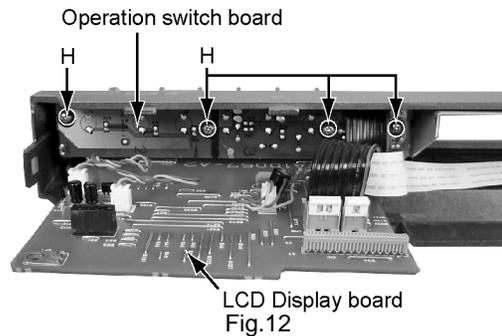

Fig.12
3.2.1 Removing the feed motor assembly (See Fig.12)
- (1) Unsolder the two soldering j on the spindle motor board.
- (2) Remove the four screws F attaching the feed motor assembly.
3.2.2 Removing the feed motor (See Fig.12 to 14)